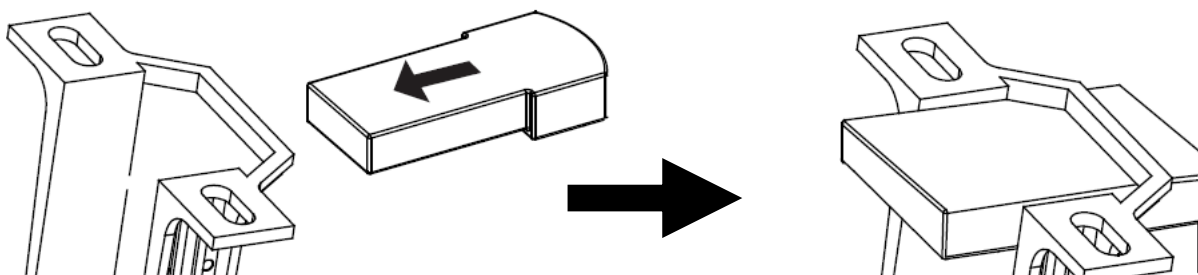

Fig. 8
See Fig. 8 for instructions below to wire up the fan.
- Carefully insert the Remote Receiver above the hanger ball in the remainder spacing in the mounting bracket. Take care not to damage or loosen any of the wiring. (Fig. 8).